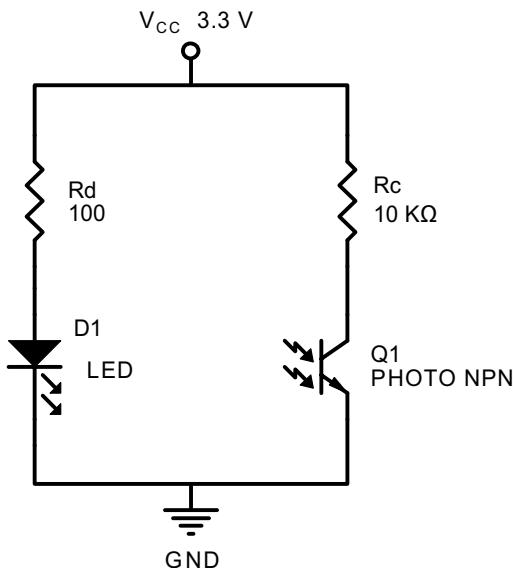
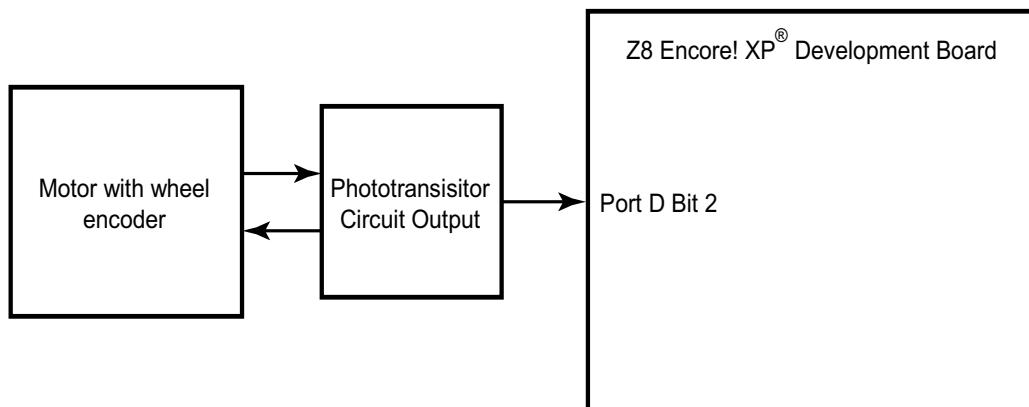

Figure 1. Circuitry for Photoreflective Sensor
Figure 4. Hardware Block Diagram for Z8 Encore! XP Tachometer
Appendix B—Alexan IR Emitting Diode on page 8 and Appendix C—Alexan WPT- 440F IR Photo Transistor on page 10 provide data sheets for IR Emitting Diode (Module No: IE-0575HLG) and the phototransistor (Module No: WPT-440F), respectively. Figure 1 displays the circuitry for the photoreflective sensor using these devices.
(Module no: IE-0575HLG). The photoreflective sensor detects the infrared light reflected by the wheel encoder. Figure 4 displays the hardware block diagram for the Z8 Encore! XP® tachometer.
This section provides details for testing the functionality of the Z8 Encore! XP MCU based tachometer. **Figure 4** on page 3 displays the setup diagram. For schematics and more details on the Z8 Encore! XP Development Board, refer to *Z8 Encore! Flash Microcontroller Development Kit User Manual (UM0146)*. The compiled code, available in AN0183-SC01.zip file (available for download at www.zilog.com), is downloaded to Z8 Encore! XP MCU Flash memory using the ZDS II IDE for Z8 Encore! v4.8.0¹
1. Connect the Z8 Encore! XP-based tachometer circuitry (see **Figure 1** on page 2 and **Figure 4** on page 3).